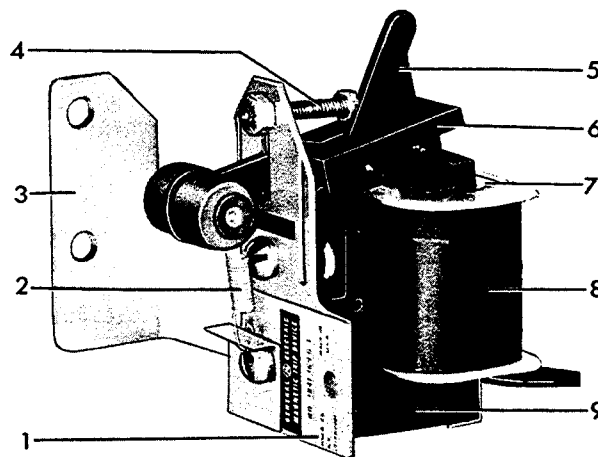

Fig. 36 (8039903) Magnet Trip Device
4. The trip solenoid which physically trips the breaker (Fig. 36).
Trip Solenoid (Fig. 36)